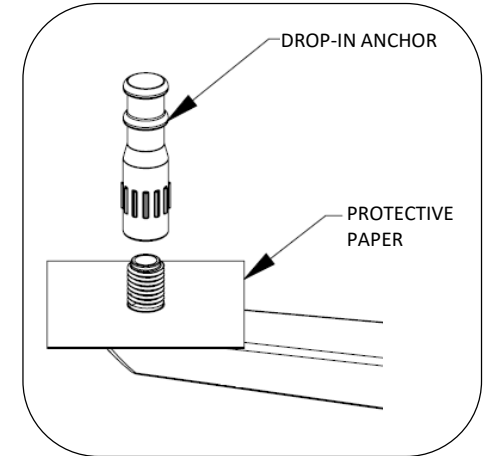

Fig. 4 – attach drop-in anchor
6. Attach drop-in anchor to glide as shown in Fig. 4.